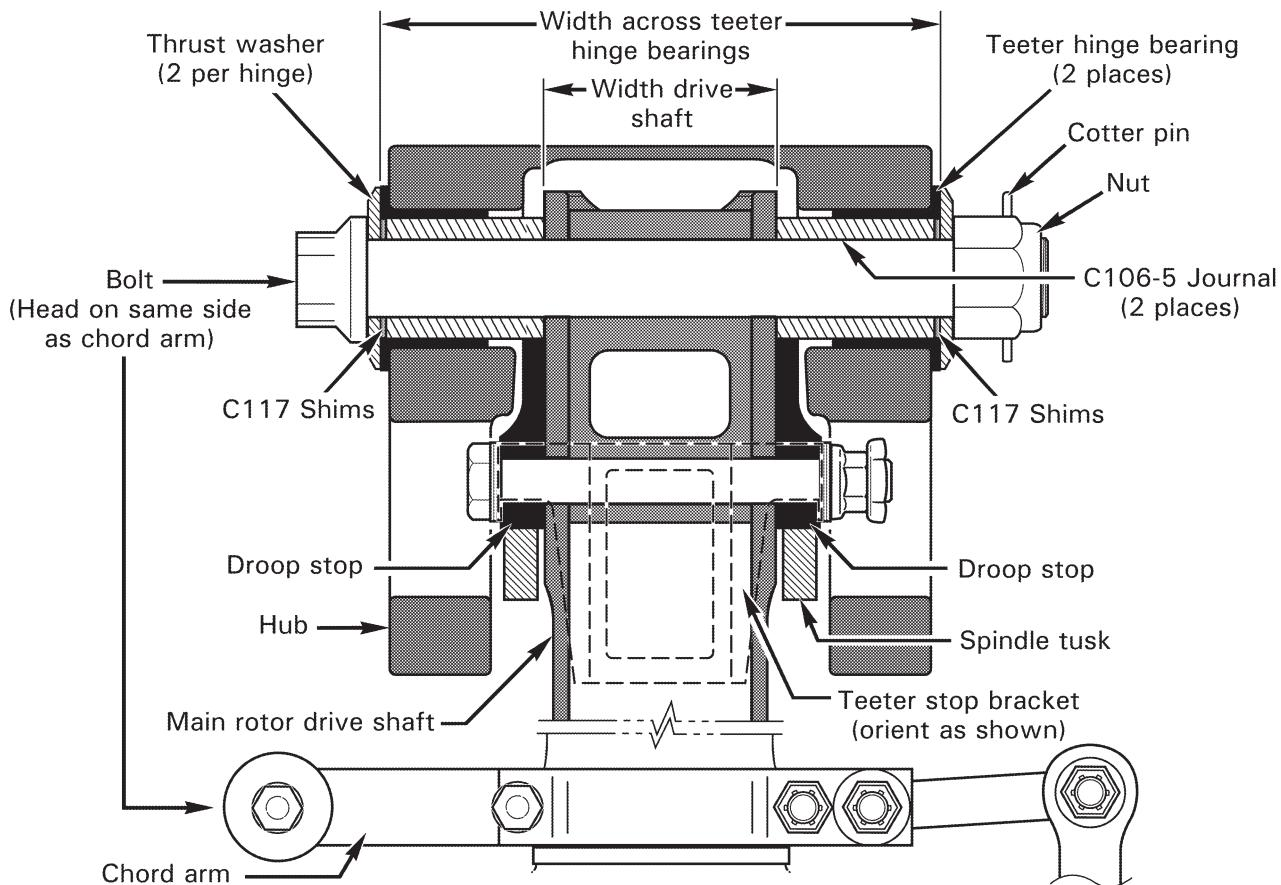

FIGURE 62-2 TEETER HINGE (HUB INSTALLATION)
2. Refer to Figure 62-2. Mark rotor hub using a grease pencil or soft marker as follows:
3. Refer to Figure 62-2. Reinstall teeter hinge bolt, thrust washers, shims, and journals exactly as removed. If previously installed information is unavailable, perform teeter hinge journal and shim calculation per Section 62-31. Ensure journals are clear of droop stops and fully contact drive shaft.
3. Refer to Figures 62-2 and 62-3. Measure and record hub width across widest point of teeter and coning hinge bearing faces (total of three measurements).